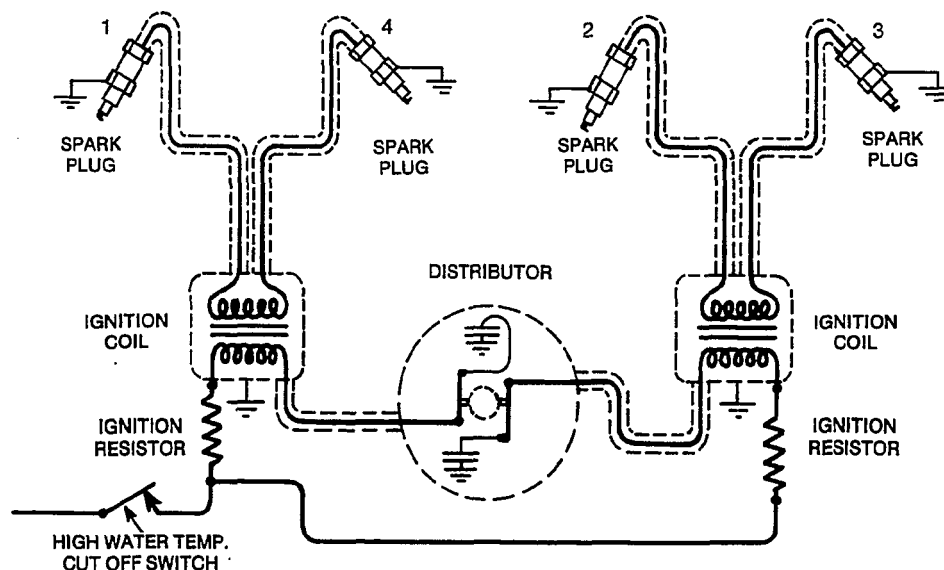

FIGURE 60. MJC IGNITION SYSTEM
The MJC engine uses a radio-suppressed battery ignition system with dual breaker points to produce and distribute spark voltage to the four cylinders (Figure 60).
The ignition system includes two ignition coils, distributor with spark advance and two sets of breaker points, and two spark plugs. Breaker point set No. 1 fires cylinders 1 and 4; point set No. 2 fires cylinders 2 and 3. (See Figure 60).
4. Connect coil leads to breaker box cover adapter. See Figure 60.
A quick check for possible coil failure can be made by simply disconnecting the high tension spark plug leads (cyl. 1 or 4 for coil nearest cyl. 1 — cyl. 2 or 3 for other coil). See Figure 60. Then hold end of the leads 1/4 inch from bare engine metal and crank engine. A spark between lead end and engine indicates coil is operating, although it (one coil or the other) may be weak, which could be checked only on a tester or by checking resistance. No spark indicates that coil, points, or control circuit to the coil is defective. Before discarding the coil, if there is no spark, check hi-tension lead for voltage while cranking engine and inspect breaker points.